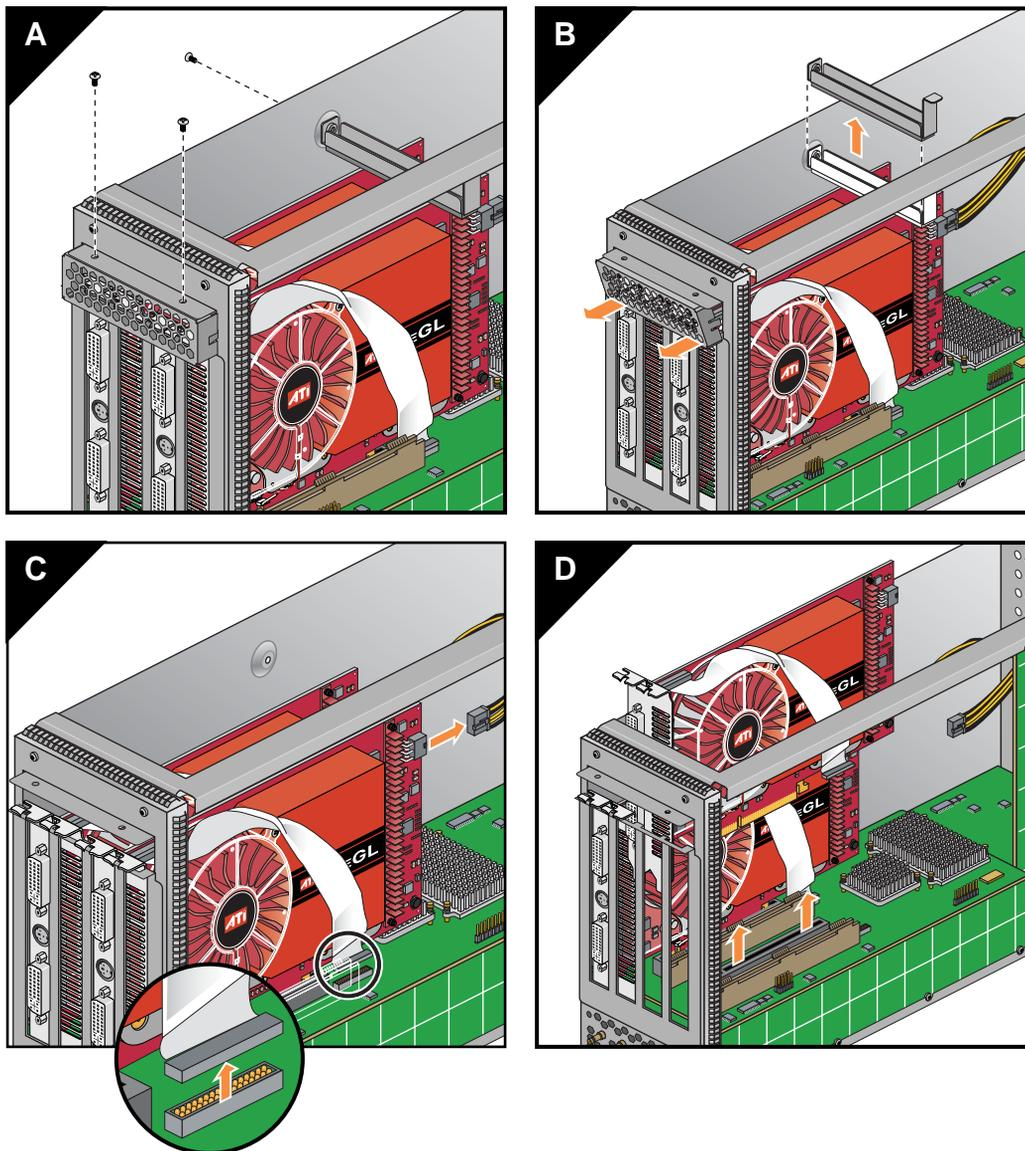

Figure 1-7 Double-Wide Graphics Blade (I4E) Remove Example
2. Undo the screw on the left side of the blade and remove the top bracket that holds the card down within the blade. It must be removed before you can lift out the graphics card, see panel A in Figure 1-7 on page 10 for an example.